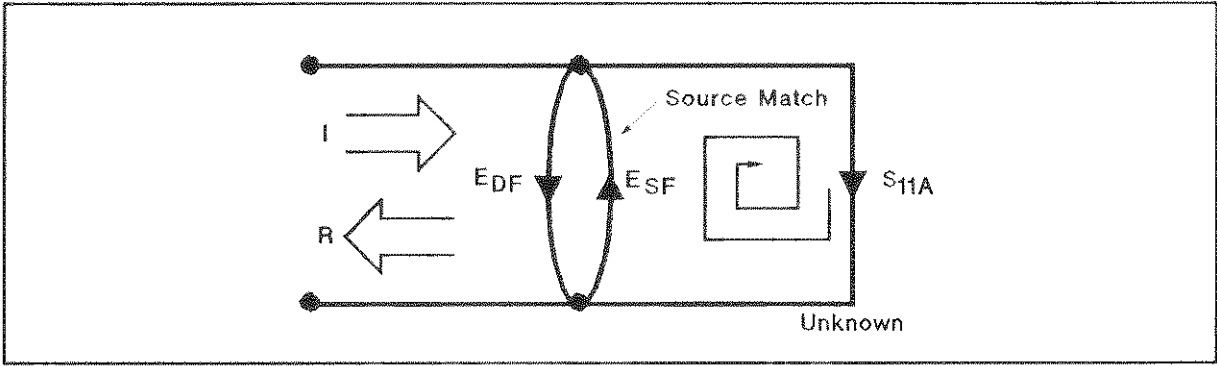

Figure 7-28. Source Match E_{SF}
Source match error. Since the measurement system test port is never exactly the characteristic impedance (50Ω or 75Ω), some of the reflected signal is re-reflected off the test port, or other impedance transitions further down the line, and back to the unknown, adding to the original incident signal (I). This effect causes the magnitude and phase of the incident signal to vary as a function of S_{11A} and frequency. Leveling the source to produce constant (I) reduces this error, but since the source cannot be exactly leveled at the test device input, leveling cannot eliminate all power variations. This re-reflection effect and the resultant incident power variation are caused by the source match error, E_{SF} (Figure 7-28).